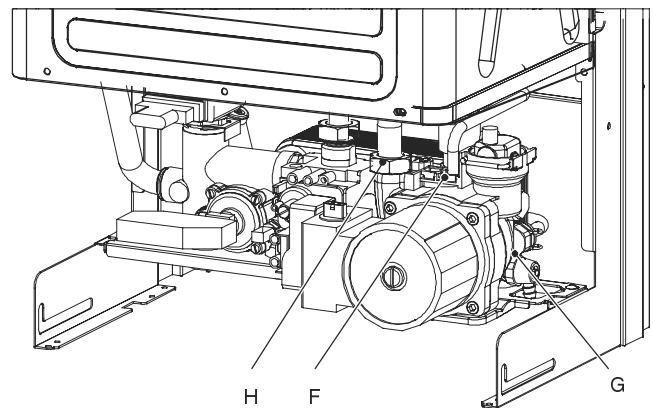

Fig. 7.3
With the boiler off, remove the front panel and disconnect the connector B (Fig. 7.3).
- 6 Remove the fork F (Fig. 7.3) and the connection of the capillary pipe of the pressure gauge.